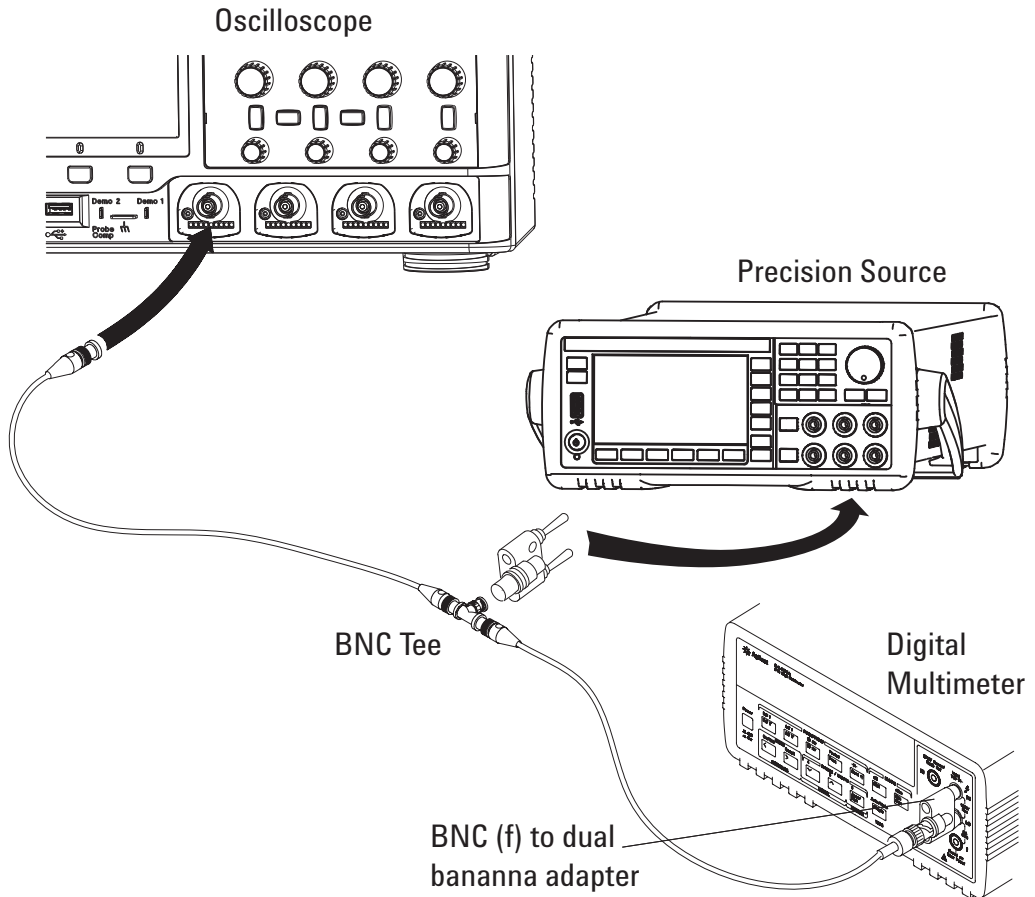

Figure 5 Setting up Equipment for Dual Cursor Accuracy Test
- 4** Use the BNC tee and cables to connect the precision source /power supply to both the oscilloscope and the multimeter (see **Figure 5**).